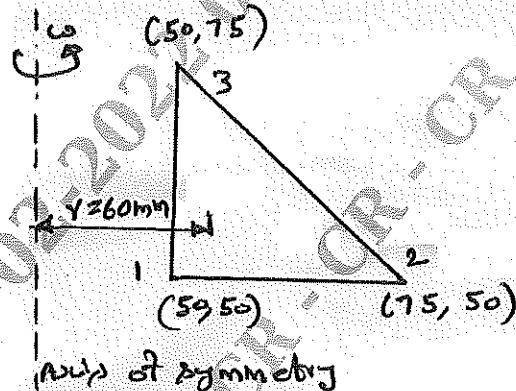

Fig.Q9(b)
b. For the element of an axisymmetric body rotating with a constant angular velocity $\omega = 1000 \text{ rev/min}$ as shown in Fig.Q9(b), determine the body force vector. Include the weight of the material, where the specific density is 7850 kg/m^3 .